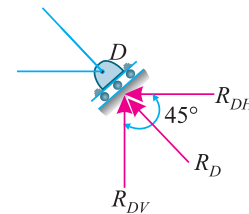

Fig. 12.34.
**Solution.** Since the truss is supported on rollers at  $D$ , therefore the reaction at this support will be normal to the support *i.e.* inclined at  $45^\circ$  with the vertical (because the support is inclined at an angle of  $45^\circ$  with the horizontal) as shown in Fig. 12.34. The reaction at  $A$  will be the resultant of vertical and horizontal forces.